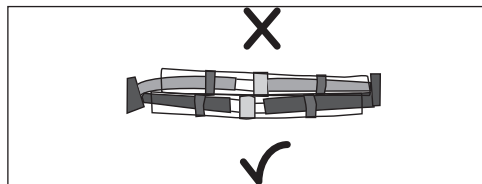

Figure 9. Proper and Improper Solder Ball Positions
6. Slide the wires from the new cable into the solder splices and position each splice so that the silver coloured solder ball is positioned over where the two (2) wires join. See *Figure 9*.